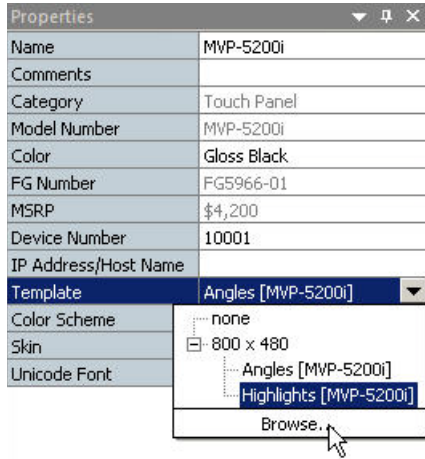

FIG. 177 Selecting a UI Template - Via Device Properties
2. In the Properties window, click on **Template** (FIG. 177):